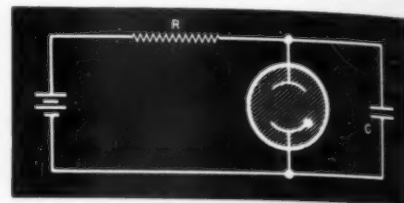
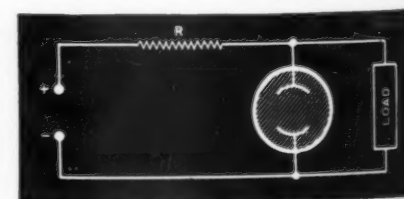

Fig. 8. Relaxation oscillator.
Fig. 9. Voltage regulator.
which serve to initiate the discharge. This can be demonstrated by building the relaxation oscillator shown in Fig. 8 using an ordinary neon bulb with the limiting resistance removed from the base, and enclosing the entire apparatus in a light tight box. The oscillations will be very erratic and will not be at all the constant oscillations seen when the apparatus is in the light. The oscillations are seen as flashes in the neon bulb provided the frequency of oscillation is slow enough.
The application of glow discharge tubes is as follows: (1) as voltage regulators, (2) as oscillators, (3) for the production of modulated light and light for display purposes such as the neon sign, (4) as rectifiers, (5) as current and power control devices, (6) as amplifiers, and (7) for the protection of meters and other apparatus against surges. Voltage regulation devices have already been discussed. A circuit for a gas-filled regulator is shown in Fig. 9. A glow tube such as a neon or argon bulb can be used to generate oscillations. A circuit for this is shown in Fig. 8. The condenser C is charged by the battery through the resistance R. As soon as the potential on the condenser reaches the value of the ignition voltage of the neon bulb, the neon bulb becomes conducting, and the condenser discharges through the bulb until the condenser voltage falls to the extinction value of the neon bulb and the discharge goes out. Then the cycle is repeated. The type of oscillations produced by such a circuit is shown in Fig. 10. An oscillator working on the above principle is called a relaxation oscillator. Details for the use of this type of oscillator can be found in any book on electron tubes.²